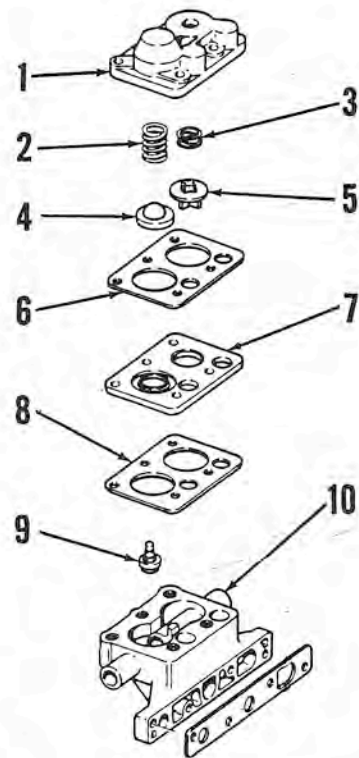

Fig. J97 — Exploded view of thermostat housing and related parts. Housing (10) mounts at rear of lower unit adapter plate.
Thermostat is located at rear of power-head to lower unit adapter plate and is shown exploded in Fig. J97. Most service can be performed without major disassembly after removing motor shroud. To renew any of the thermostat components, remove top cover (1), and the two springs (2 & 3). Check valve (5) is set to maintain one pound initial pressure in cooling system, and opens to return coolant water to intake side of water pump until engine warms up and thermostat valve (4) opens. Check seating surfaces of valves (4 and 5) and valve plate (7), and check springs for distortion or other damage. Renew all removed gaskets when thermostat unit is reassembled.